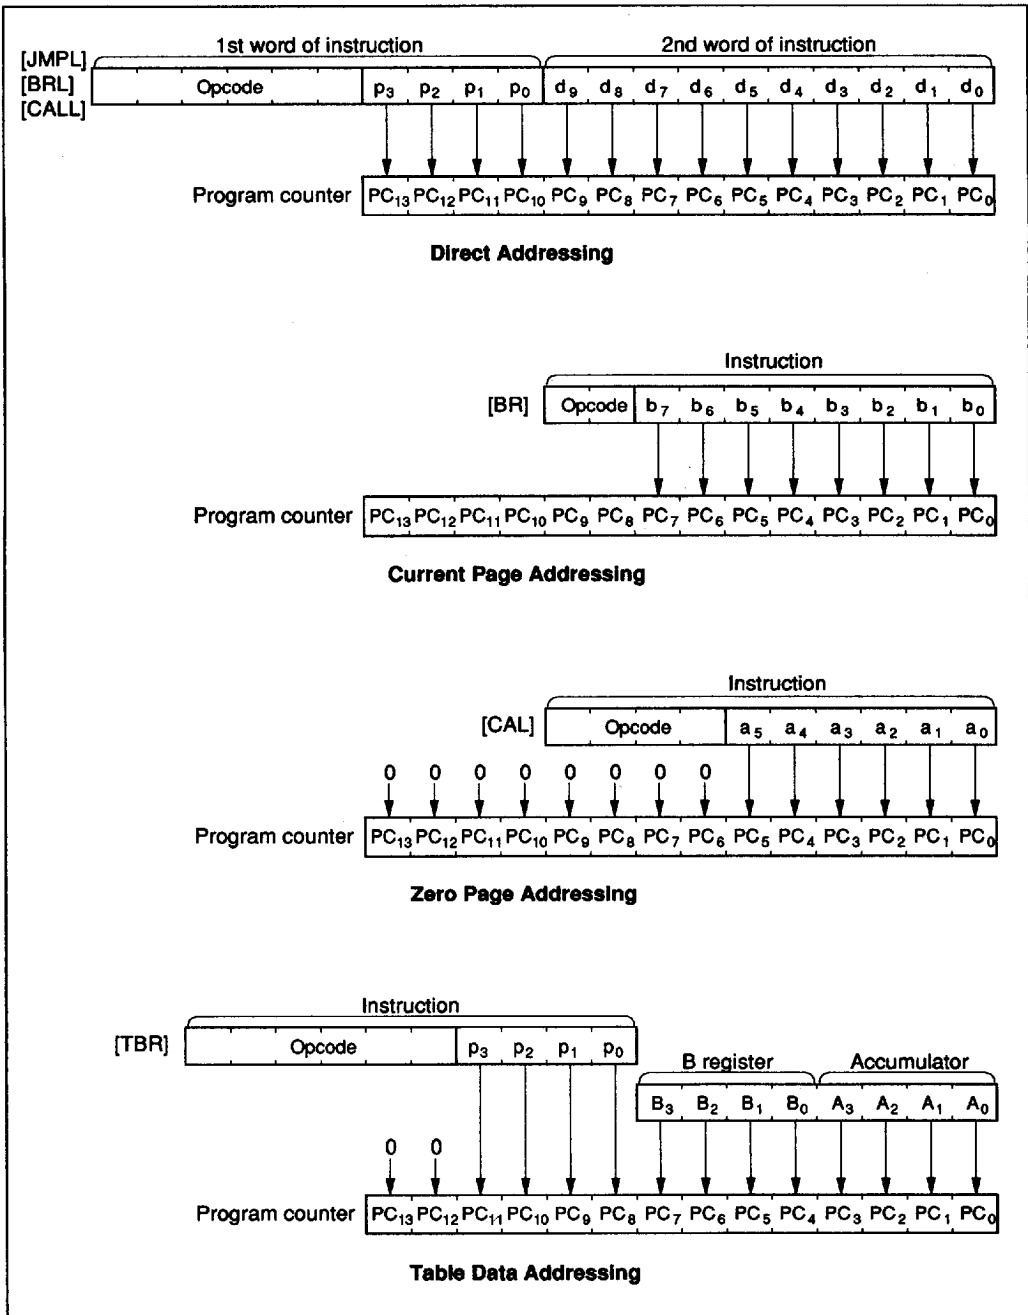
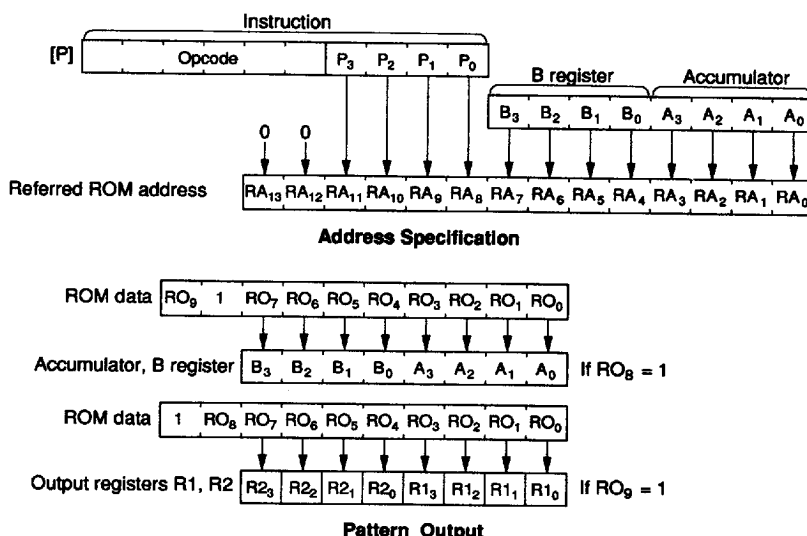

Figure 65 ROM Addressing Modes
Figure 66-1 P Instruction (HD404719, HD4074719)
The MCU has four ROM addressing modes, as shown in figure 65, and the P instruction shown in figures 66-1 and 66-2.
**P Instruction:** ROM data addressed in table data addressing mode can be referenced by the P instruction as shown in figure 65. If bit 8 of the ROM data is 1, eight bits of ROM data are written to the accumulator and the B register. If bit 9 is 1, eight bits of ROM data are written to the R1 and R2 port output registers. If both bits 8 and 9 are 1, ROM data is written to the accumulator and the B register, and also to the R1 and R2 port output registers at the same time.